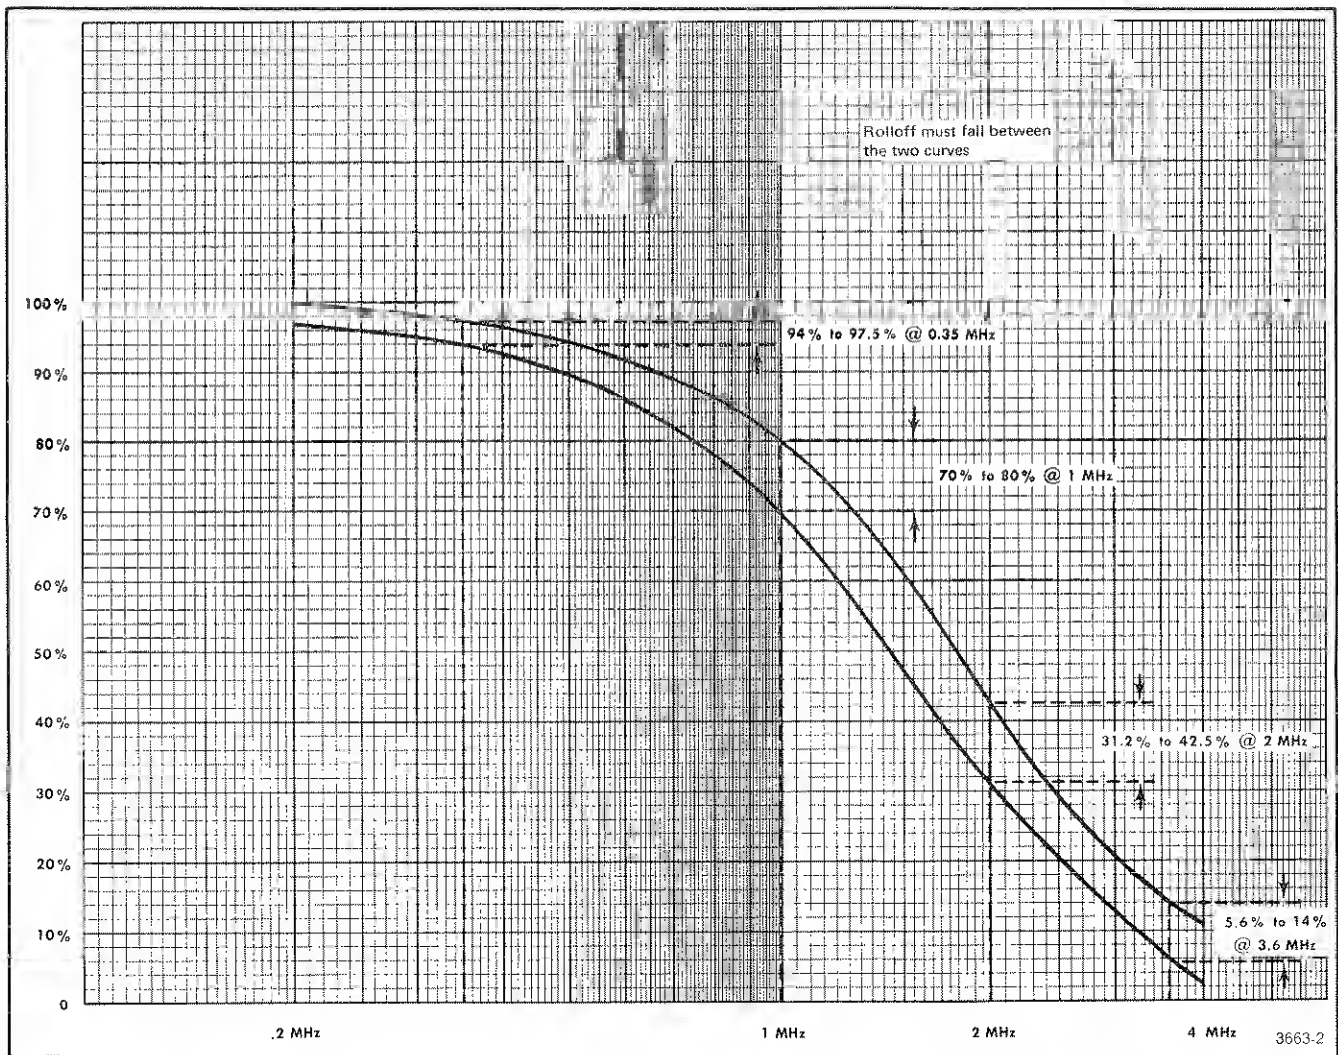

Fig. 1-1. IRE 1958 standard 23S-1.
13. Set the RESPONSE switch to IRE. This position of the switch provides a frequency response with a rolloff per 1958 IRE STD 23 S-1 as illustrated in Fig. 1-1 (refer to Section 1 Specification in this manual). Figure 2-4 shows the waveform monitor display with this response.